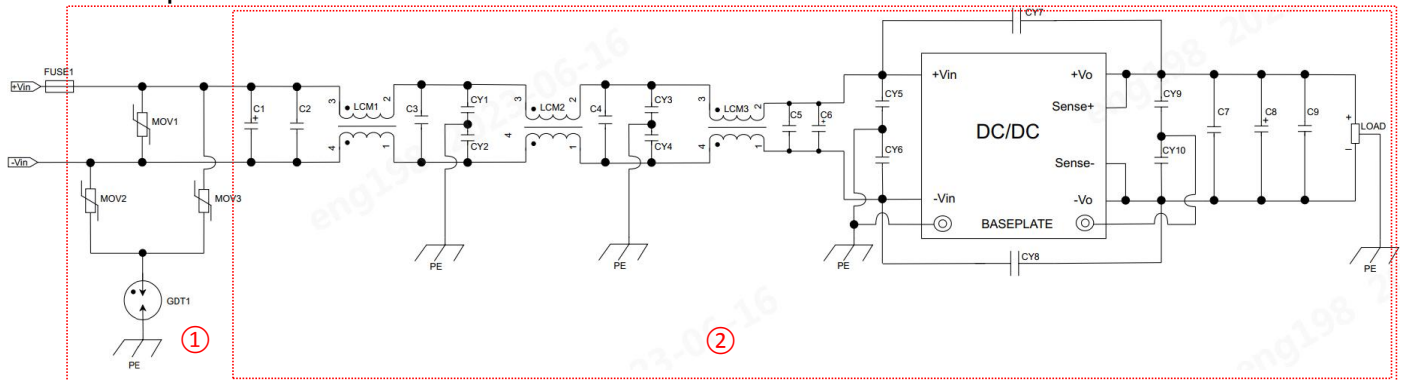

Fig. 8
GJB151B CE102 (see Fig.8② for recommended circuit)
RE	CISPR32/EN55032 CLASS A (see Fig.8② for recommended circuit)